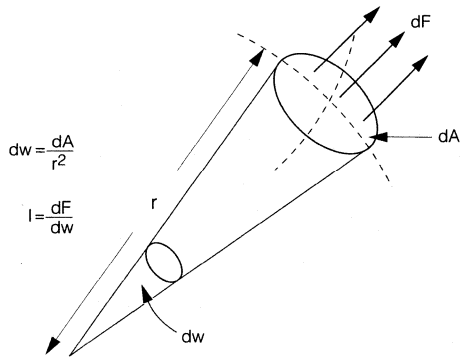

Figure 3. Solid Angles and Luminous Intensity
Since it is generally not practical to collect all the flux from a light source and direct it in some desired direction, it is desirable to know how the flux is distributed spatially about the source. If we treat the source as a point (far field measurement), we can divide the space around the source into elements of solid angle ($d\omega$), and inquire as to the luminous flux (dF) contained in each element of solid angle ($dF/d\omega$). The resulting quantity is Lumens/Steradian and is called *luminous intensity* (I), Figure 3. The unit of luminous intensity is called the *candela*, sometimes loosely called the candle, or candle power.